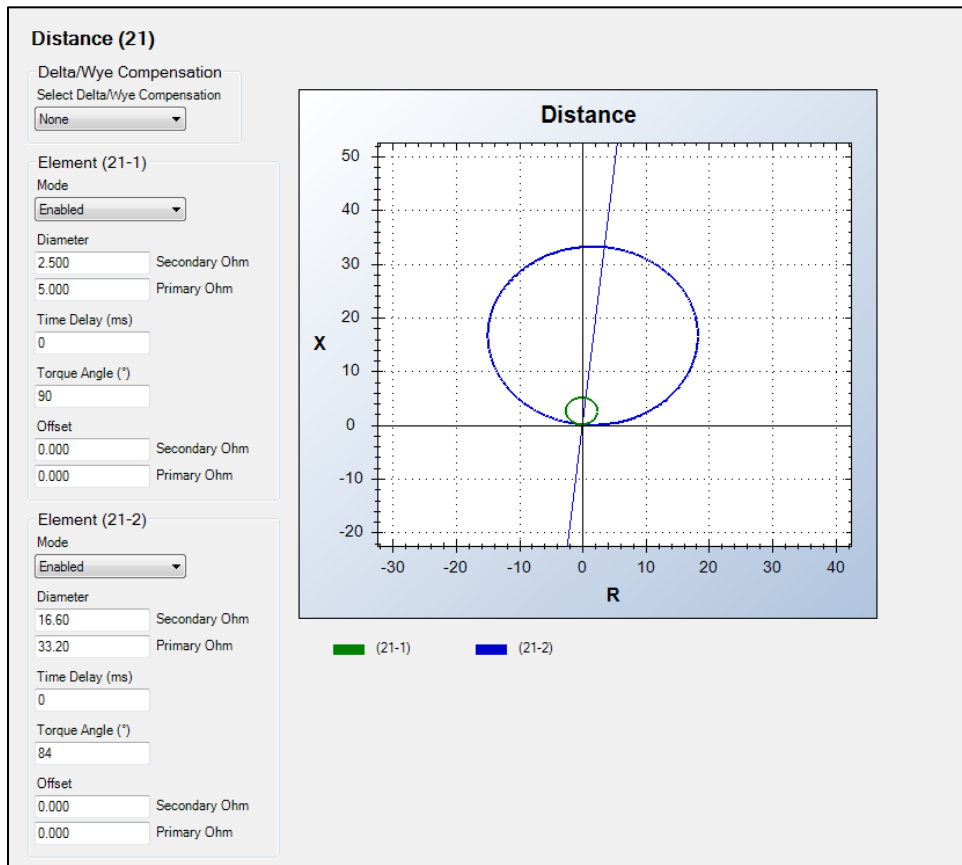

Figure 25-2. Distance Settings Screen
Distance element operational settings are configured on the Distance (21) settings screen (Figure 25-2) in *BESTCOMSPPlus*.